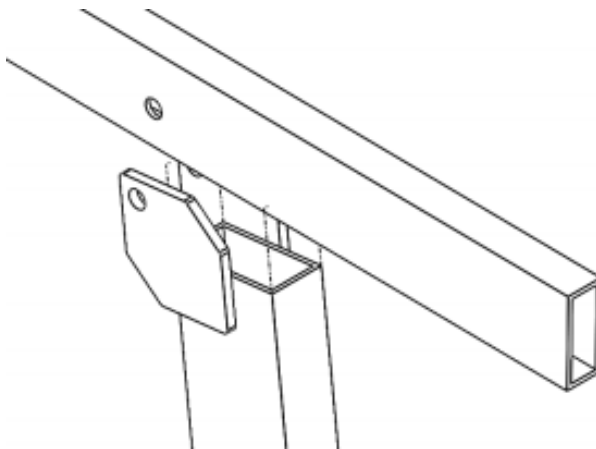
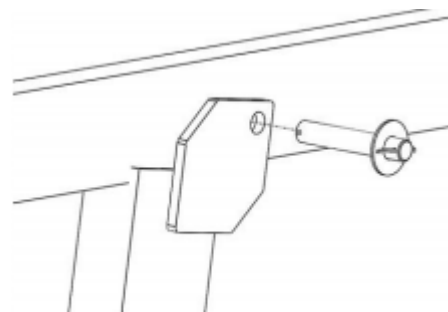

Figure 14
Figure 15
1. Align the 1" holes of the H-Frame(s) with the corresponding holes on the V-Bunk Support, resting the V-Bunk Support on top of the H-Frame(s) as shown in Figure 14.
2. Insert one (1) 1/8" Cotter Pin into one (1) 1" Hinge Pin, bending the tines of the Cotter Pin outward and apart, securing the Cotter Pin within the Hinge Pin.
4. Insert the Hinge Pin through the hinge plate as shown in Figure 15.
4. Insert a Lollipop Washer between the Bunk and the H-Frame on both sides as shown in Figure 15 before fully inserting the Hinge Pin through the H-Frame and out of the opposite side of the Bunk.
6. Repeat this step three (3) more times, once for the opposite end of the Bunk, and twice for the second Bunk.